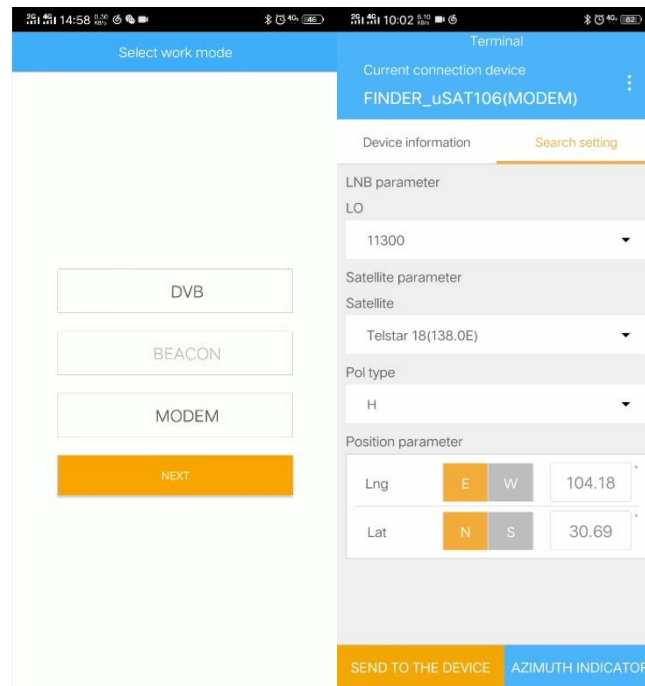

Figure 7-9
6. Selecting the work mode, the device will be fed back to APP according to the mode that it can support. APP provides the mode of choice, as shown in Figure 7-9.